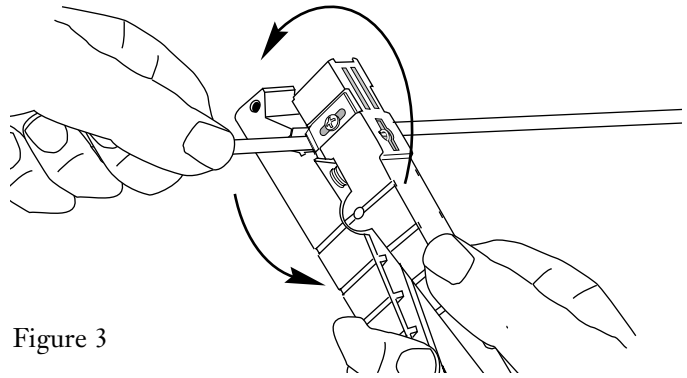

Figure 3
**4.3** Place the Ideal tool over the mark made in step 4.1. Rotate the tool around the cable to *score* the jacket (Figure 3). DO NOT cut through the jacket, or the 900  $\mu$ m tight-buffered fibers might be damaged.